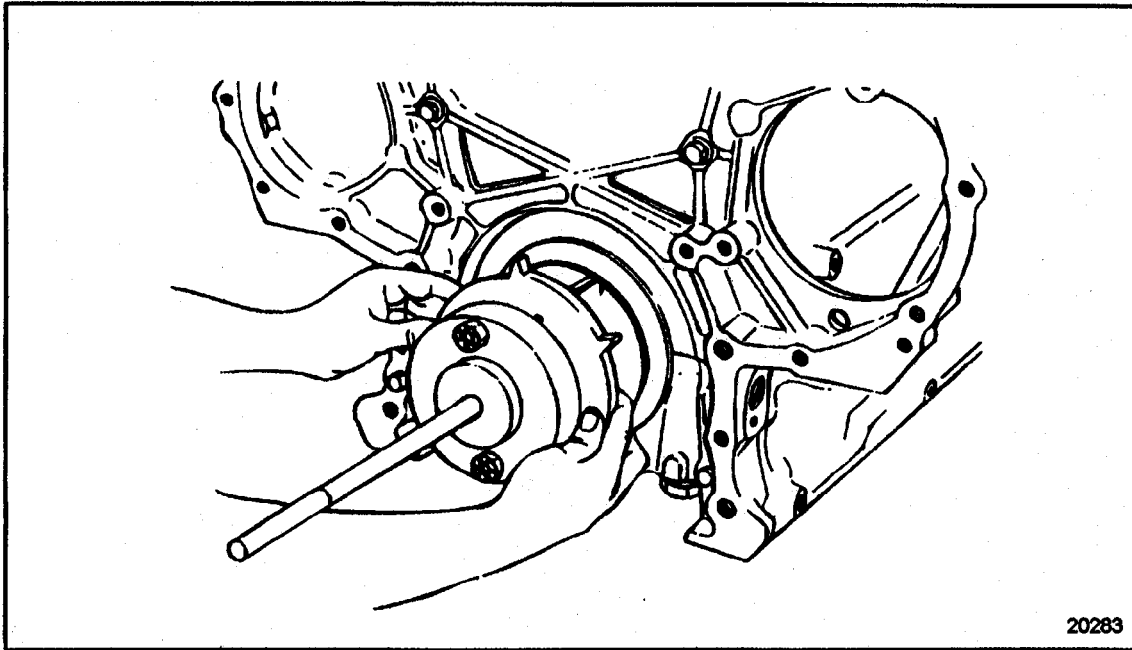

Figure 1-393 **Timing Wheel Installation**
3. Index the keyway of the timing wheel with the key in the crankshaft. Slide the timing wheel onto the crankshaft, with the word OUT on the timing wheel facing you, as far as it will go without forcing it. See Figure 1-393.